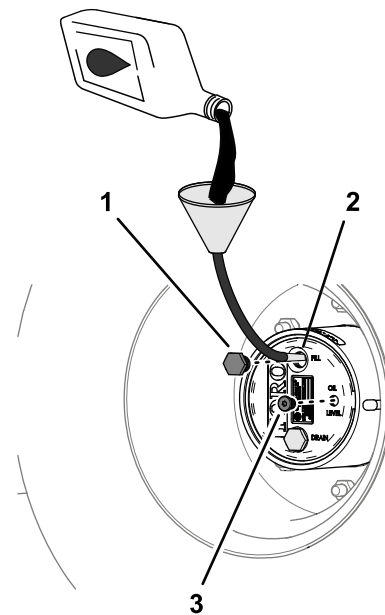

Figure 87
4. If the oil level is low, remove the fill plug and add the specified oil until it begins to flow out of the hole for the check-plug (Figure 87).
6. Install the fill plug and the check plug (Figure 87).
- Through the fill-plug hole, slowly add the specified gear lube; refer to Figure 87 in Checking the Planetary-Gear-Drive Lubricant \(page 63\).
- Install the fill plug and oil level plug; refer to Figure 87 in Checking the Planetary-Gear-Drive Lubricant \(page 63\).